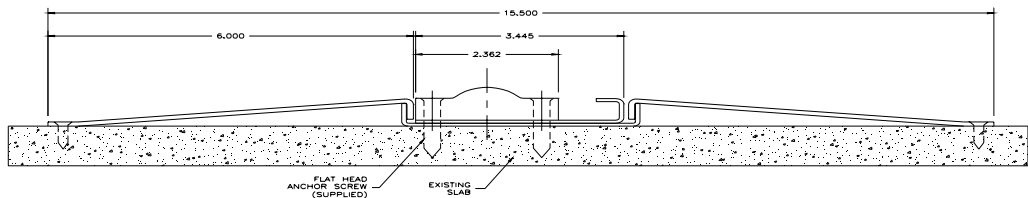

Figure 3
NOTE: A minimum of one (1) hole must be drilled and tapped through carriage flange as per Figure 3.